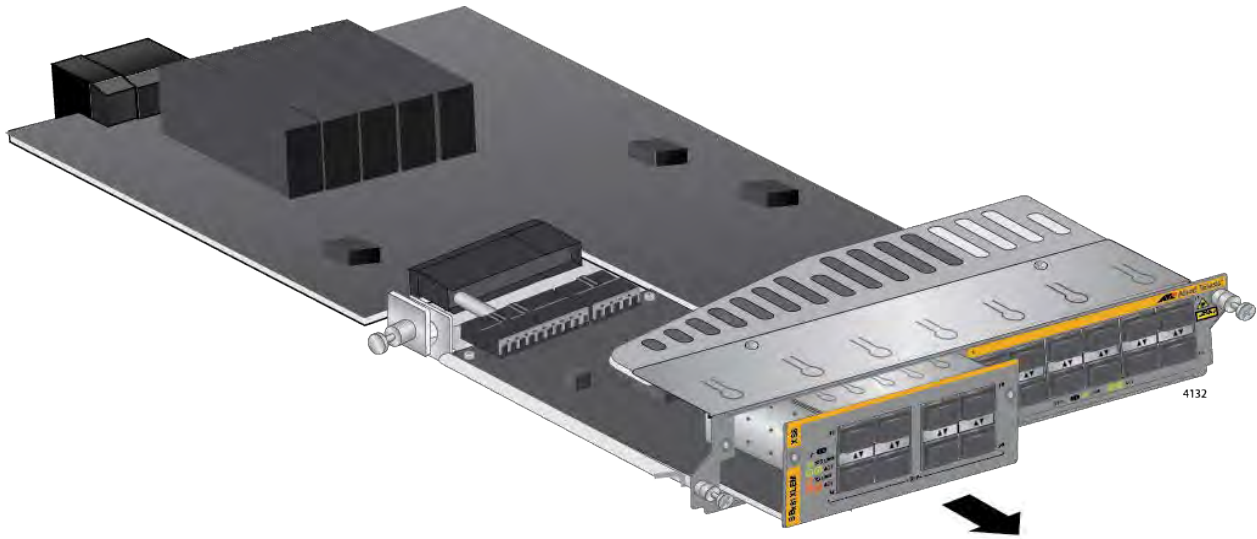

Figure 178. Sliding the Expansion Module from the AT-SBx81XLEM Line Card
6. Slide the expansion module from the line card. Refer to Figure 178 on page 283.